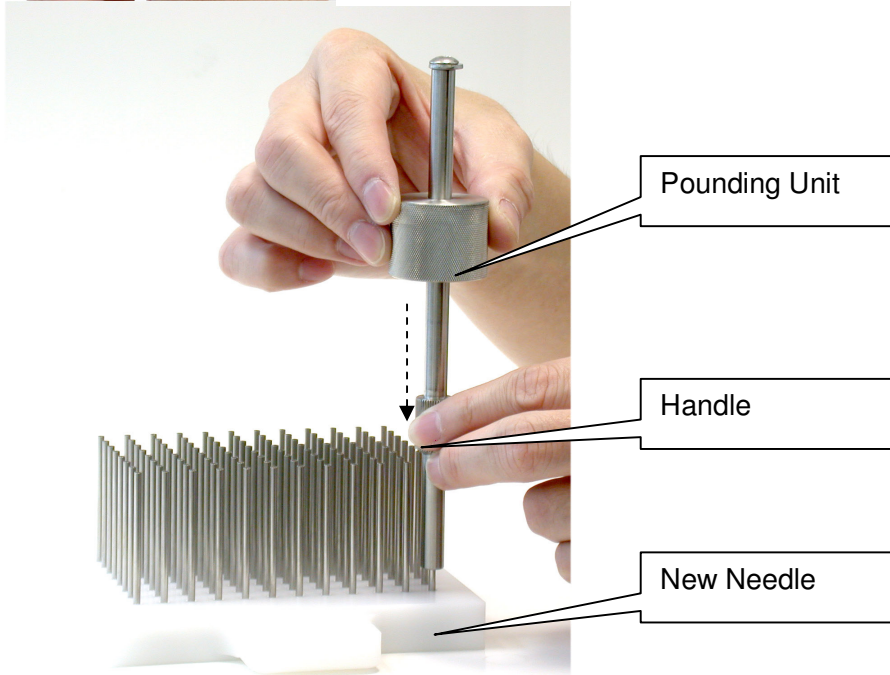

Figure 2
3. Position the needle perpendicular to Needle Head Assembly. (Figure 2)